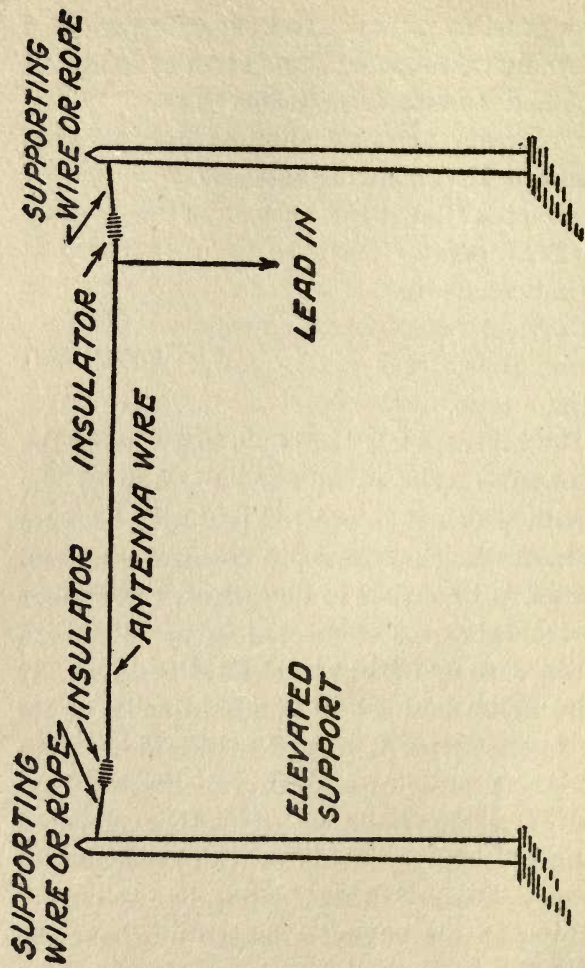

FIG. 24. The inverted L antenna may be used for both transmitting and receiving.
1. The inverted "L" antenna is probably the most popular type of antenna because of the ease with which it is erected and also because of its high efficiency for both transmission and reception. It consists of one wire, or a number of horizontal wires connected in parallel with a lead-in wire or wires attached at one end. It gets its name because of the similarity of its shape to the letter L turned upside down (see Fig. 24). A piece of wire or rope is first connected to a high pole or any other elevated structure, with an insulator connected to it. The antenna wire is then fastened to the other end of the insulator and a length of about 100 feet of this wire is let out and fastened to